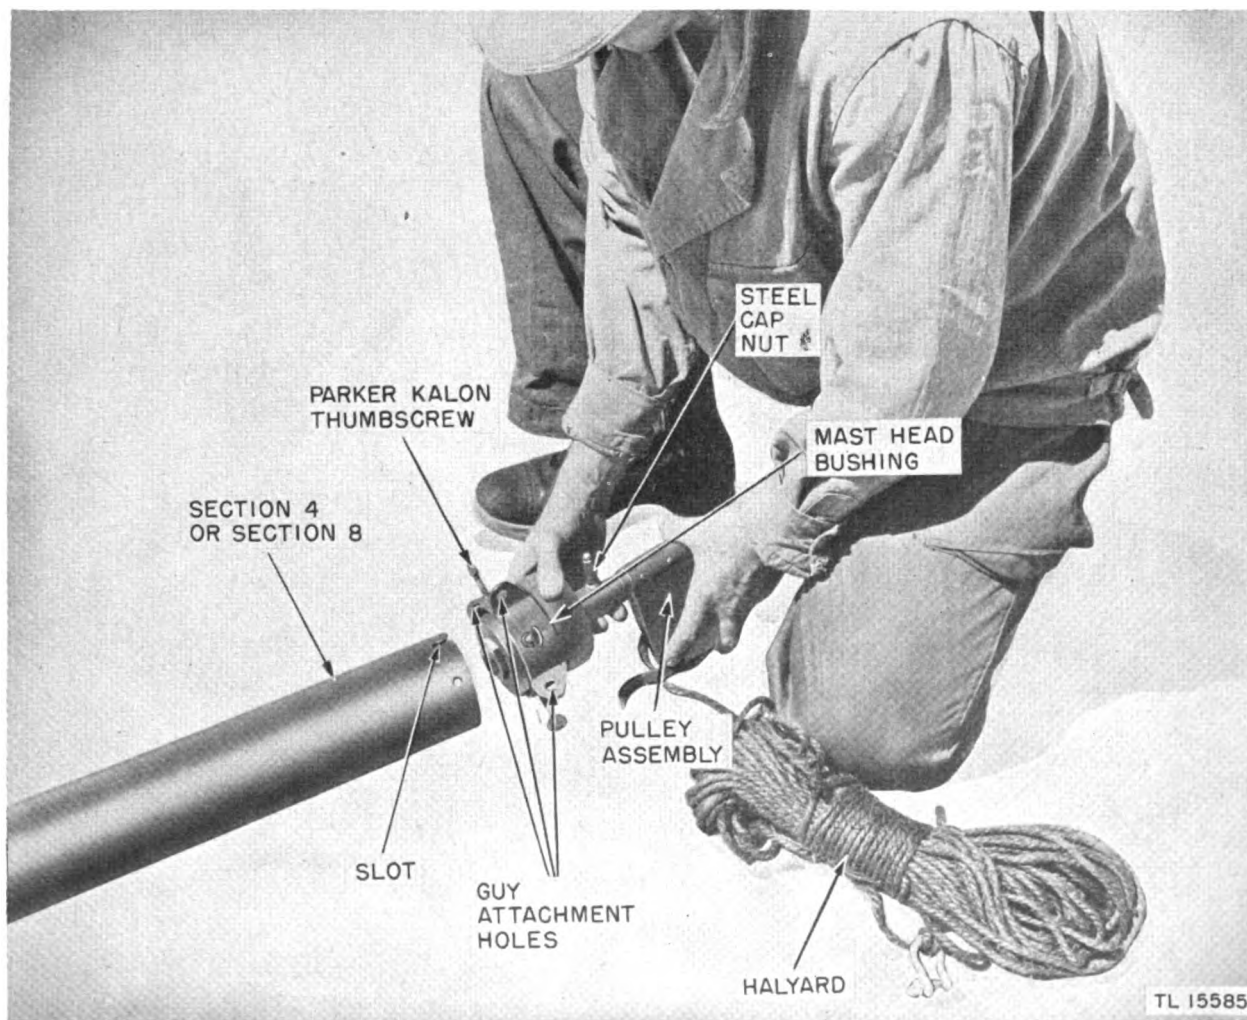

Figure 8. Installing the mast-head cap assembly.
(1) Place the mast-head cap (complete with pulley assembly and halyard) so that the bushing faces the top of section 8 (fig. 8).
(2) Loosen the four Parker Kalon thumbscrews and turn the bushing while exerting a steady downward pressure. When the slot at the upper end of section 8 is in line with the positioning screw in the mast-head bushing (fig. 8), the bushing will slide into section 8 and the four tapped holes in the bushing and in section 8 will coincide. Turn the four thumbscrews so that the two units are held together rigidly.
(3) The mast sections should now be lying on the ground so that one of the guy attachment holes is facing up.
(4) Fit the pulley on the mast-head assembly so that it lies half way between this hole and the next hole in the side most favorable for attaching the antenna.
(5) Tighten the steel cap nut so that the pulley is held in position.